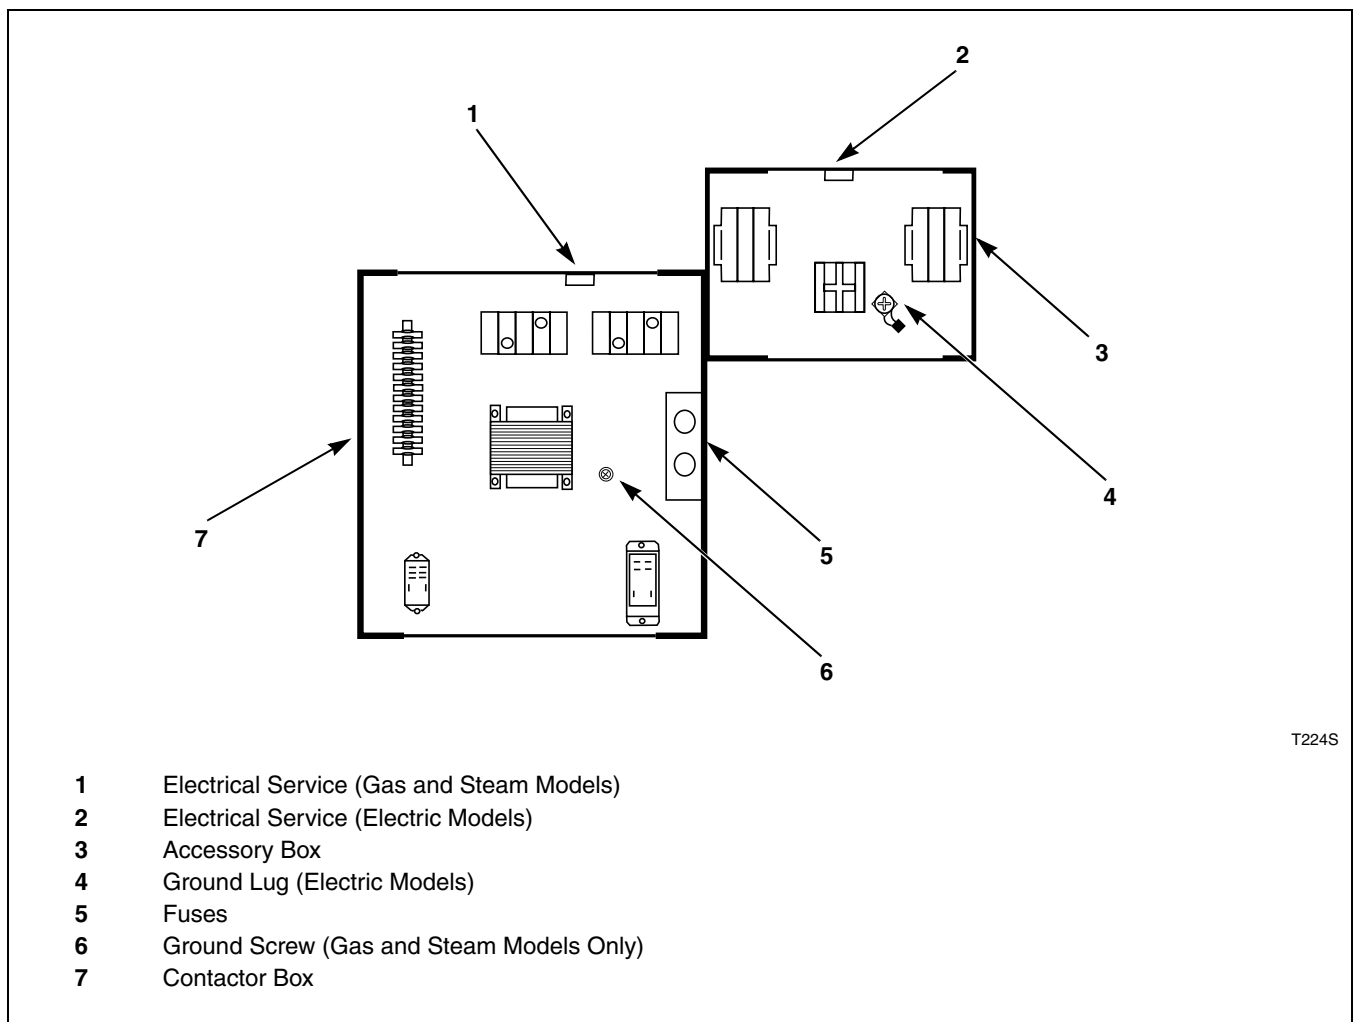

Figure 16
2. Connect the conduit-encased leads to the disconnect switch, or circuit breaker. Connect the wire leads to the appropriate labeled terminal on the terminal block. The ground wire must be connected to the ground connection as shown in *Figure 16*.